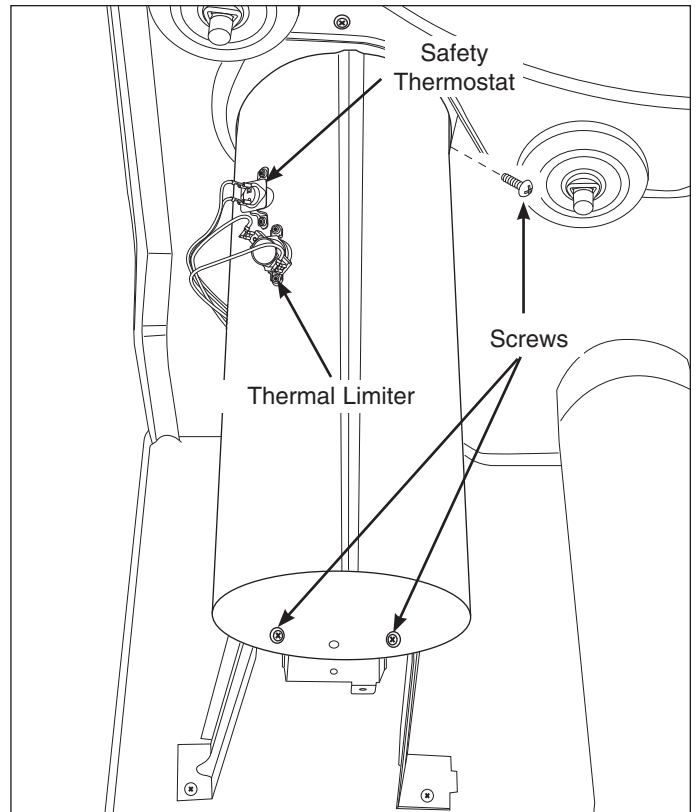

Figure 4-55.
4. Using a #2 square bit screwdriver, extract the two screws at the front of the combustion tube and the single screw at the right rear. (See Figure 4-55)